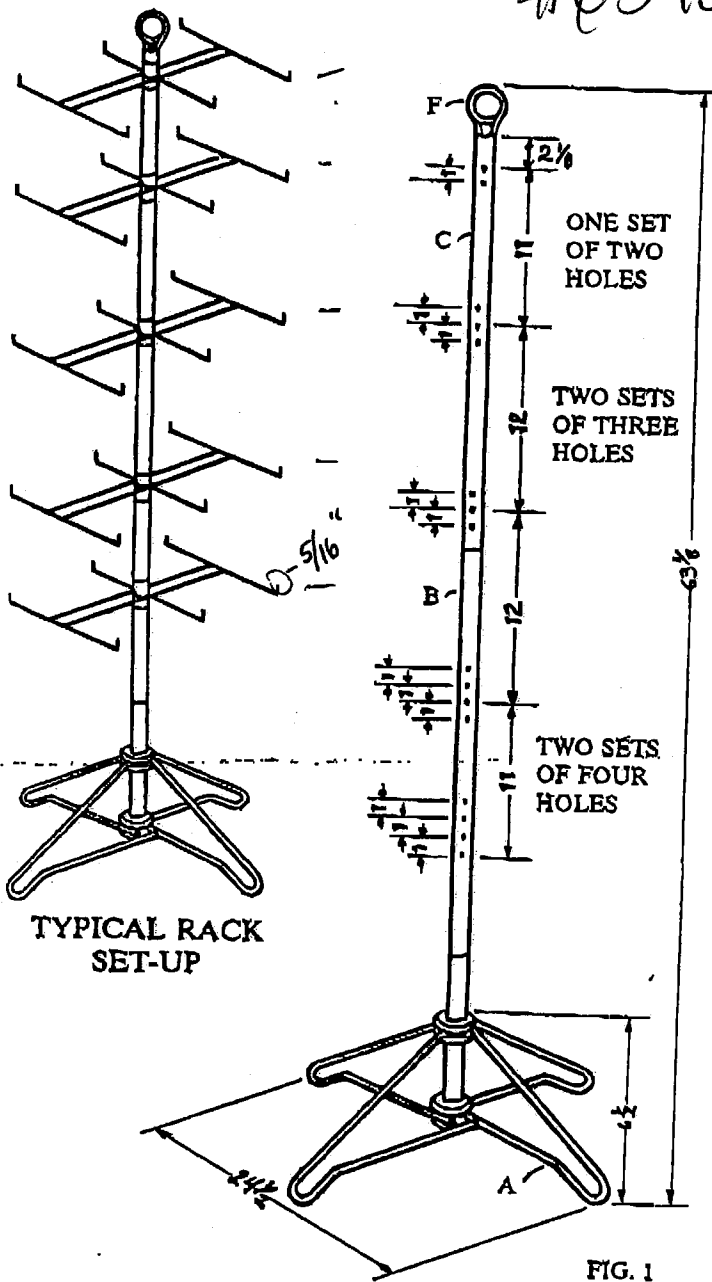

FIG. 1
1. Open base (A) until it locks automatically.
2. Note difference between bottom tube (B) and top tube (C), as shown in Fig. 1.